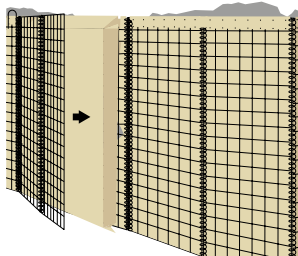

Figure 8
- Place the geotextile patch on inside of the repair panel and fold in the 6" (150mm) overlap (*Figure 8*).